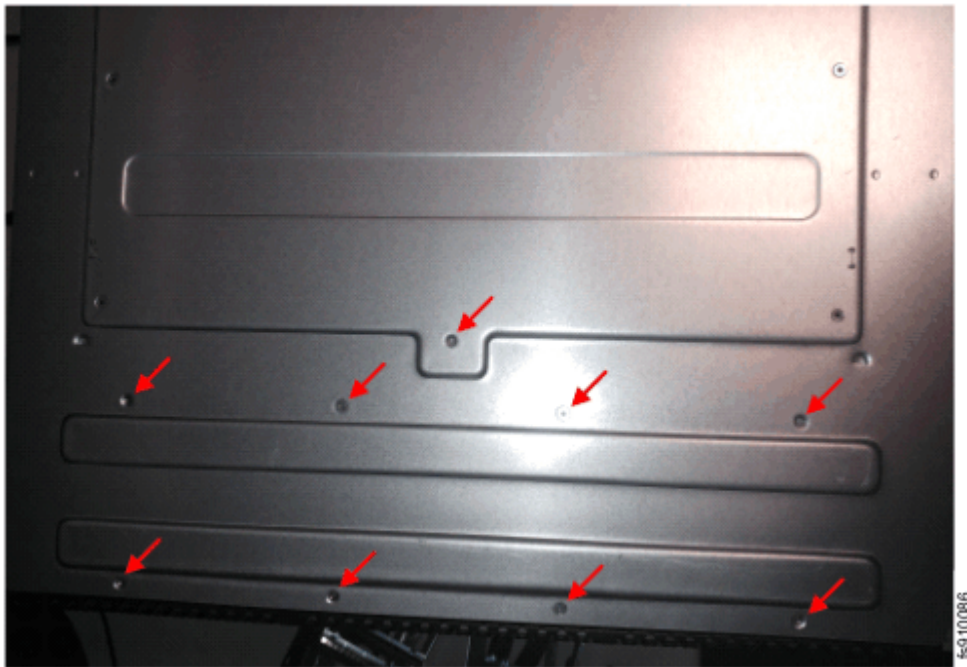

Figure 98. Location of the screws on the underside of the control enclosure
13. Remove the nine screws from under the front of the enclosure (see Figure 98 on page 150).